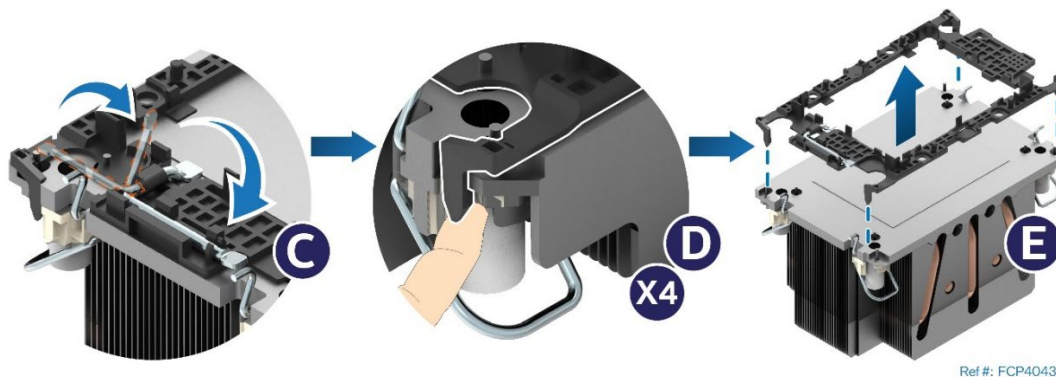

Figure 115. Processor Carrier Clip Removal from PHM Assembly
4. (If present) Remove the six screws on the chassis back panel (see Figure 115).